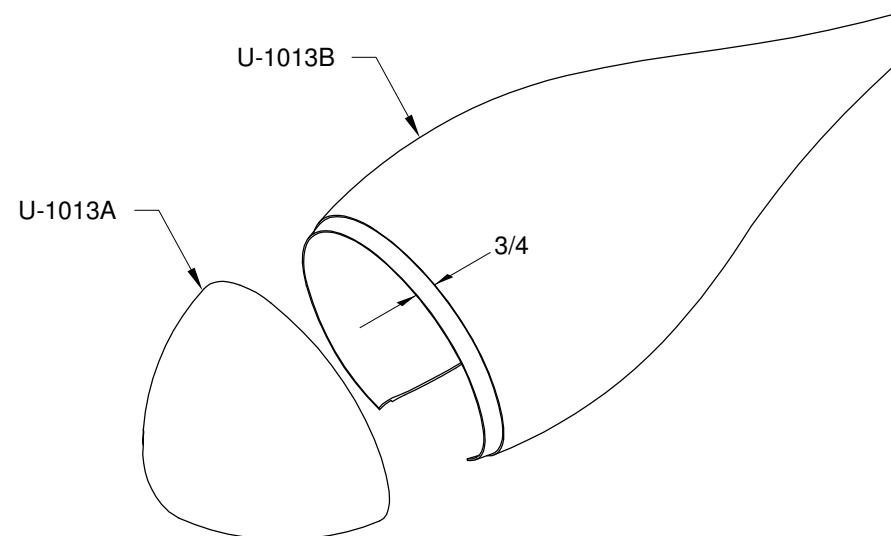

FIGURE 1: FITTING FAIRING HALVES
Step 1: Fit the U-1013A Wheel Fairing Front and U-1013B Wheel Fairing Rear together. The wheel fairing rear has a recessed lip on the front so the smaller wheel fairing front will fit flush. This lip may be uneven. Trim it to a constant width as shown in Figure 1.